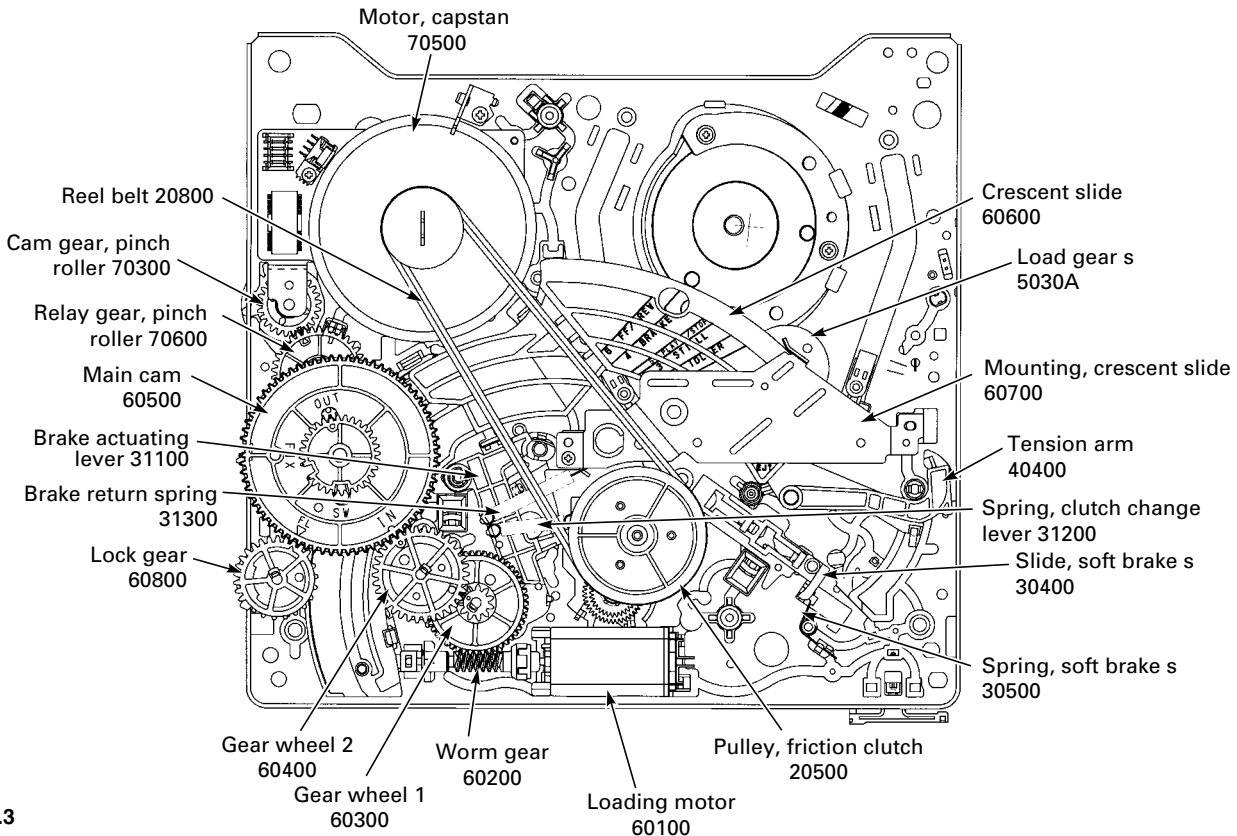

Fig. 4.3
– The mechanism operating modes can be checked by rotating the worm gear (Pos. 60200) at the loading motor (Pos. 60100) or by rotating the gear wheels (Pos. 60300, 60400 and 60500) with the worm gear (Pos. 60200) removed (Fig. 4.3).